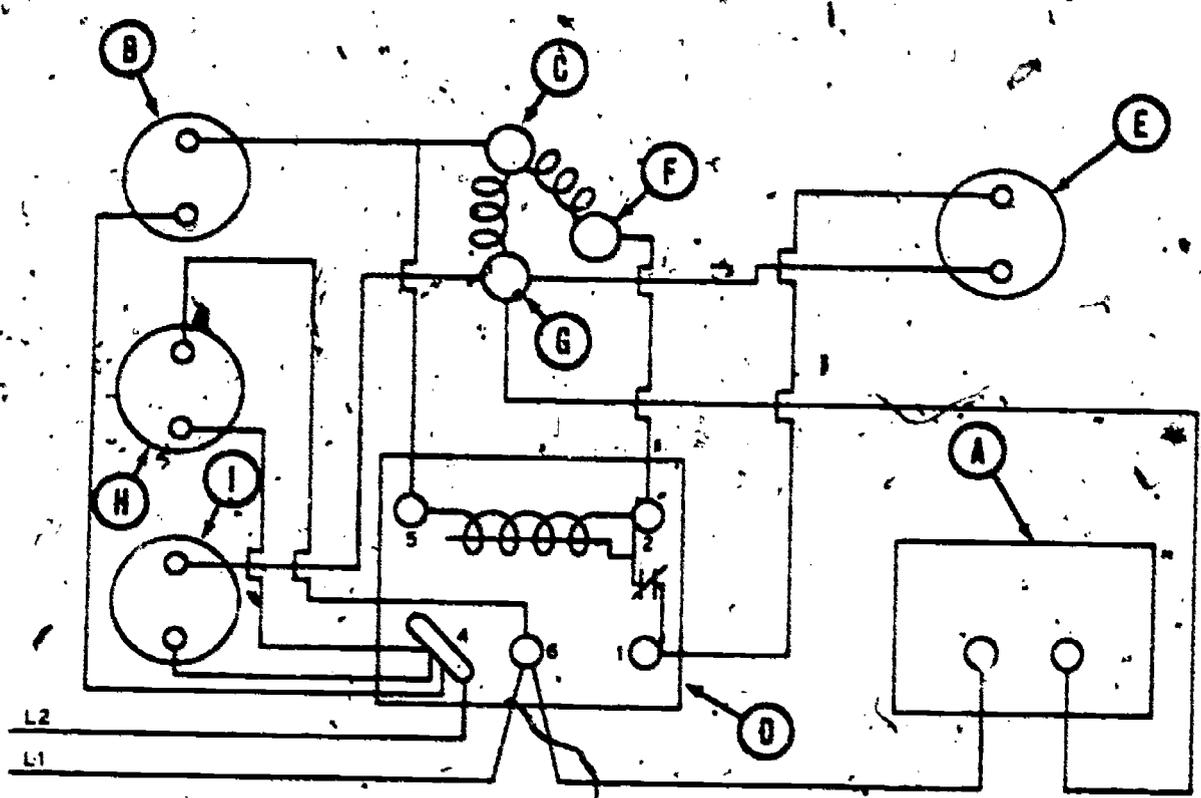

Figure 2. Single-Temperature Evaporator Electrical System.
Use the schematic in figure 2 for component identification.
3. Study the electrical schematic in figure 2.